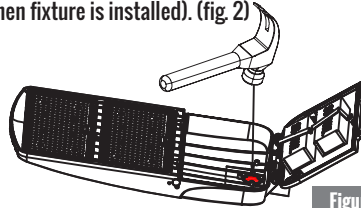

Figure 2
2. Use hammer to knock out the knockout hole on the specified area on back side of fixture (photocell will point upward when fixture is installed). (fig. 2)